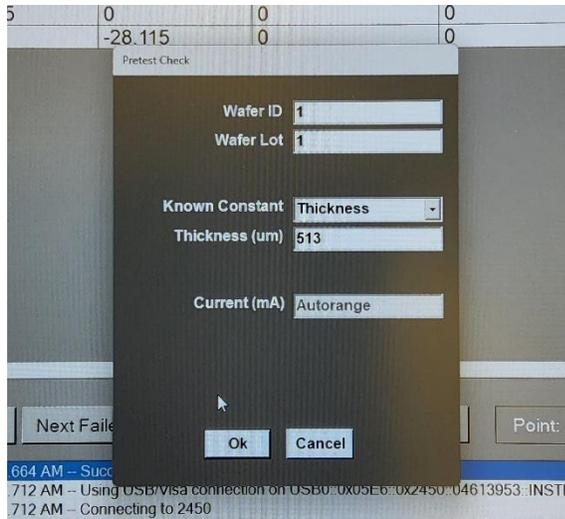

Figure 3.
3. After pressing either Auto or Single Test a pop up will appear on the screen. The pop up is show on Figure 3. Enter either the known thickness of the film you are measuring. Press OK.